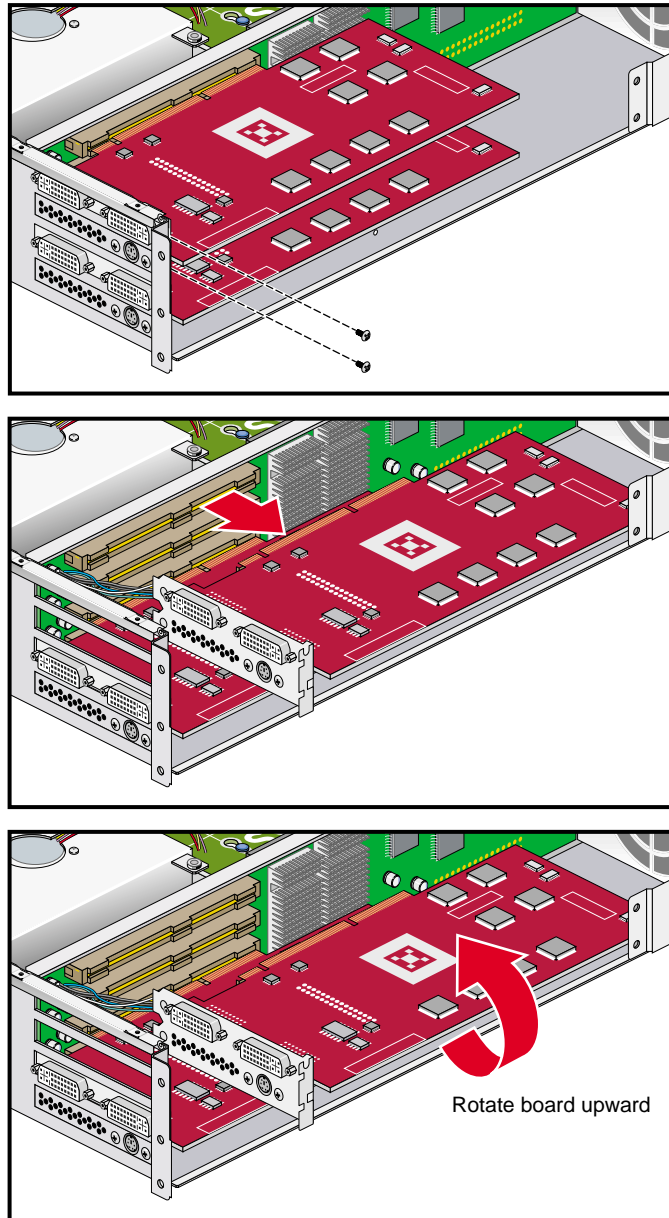

Figure 4-19 Remove XG2N Graphics Board Assembly
10. Undo and remove the two screws that hold the card to the back panel, as shown in Figure 4-19.